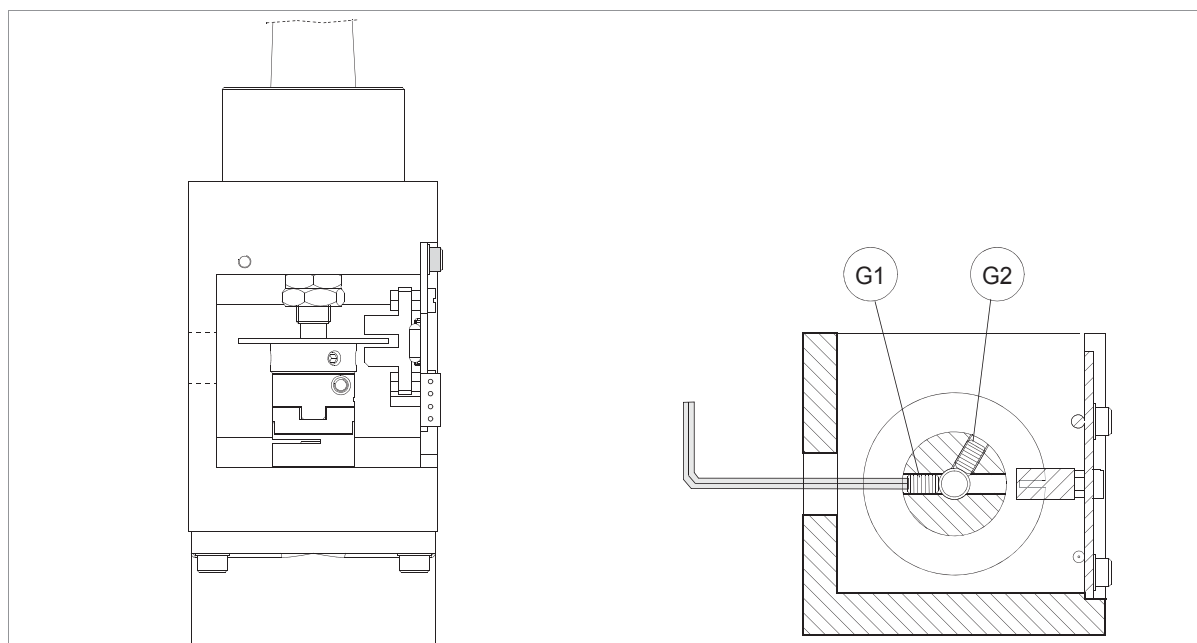

Fig. 115
- 3) loosen the (G1) and (G2) grub screws that secure the X axis photocell disk (fig. 115).
- manually turn the X axis disk (fig. 115, page 89) up until the display's description changes from OFF to ON.
- use the provided allen key to tighten the (G1) grub screw (fig. 115).